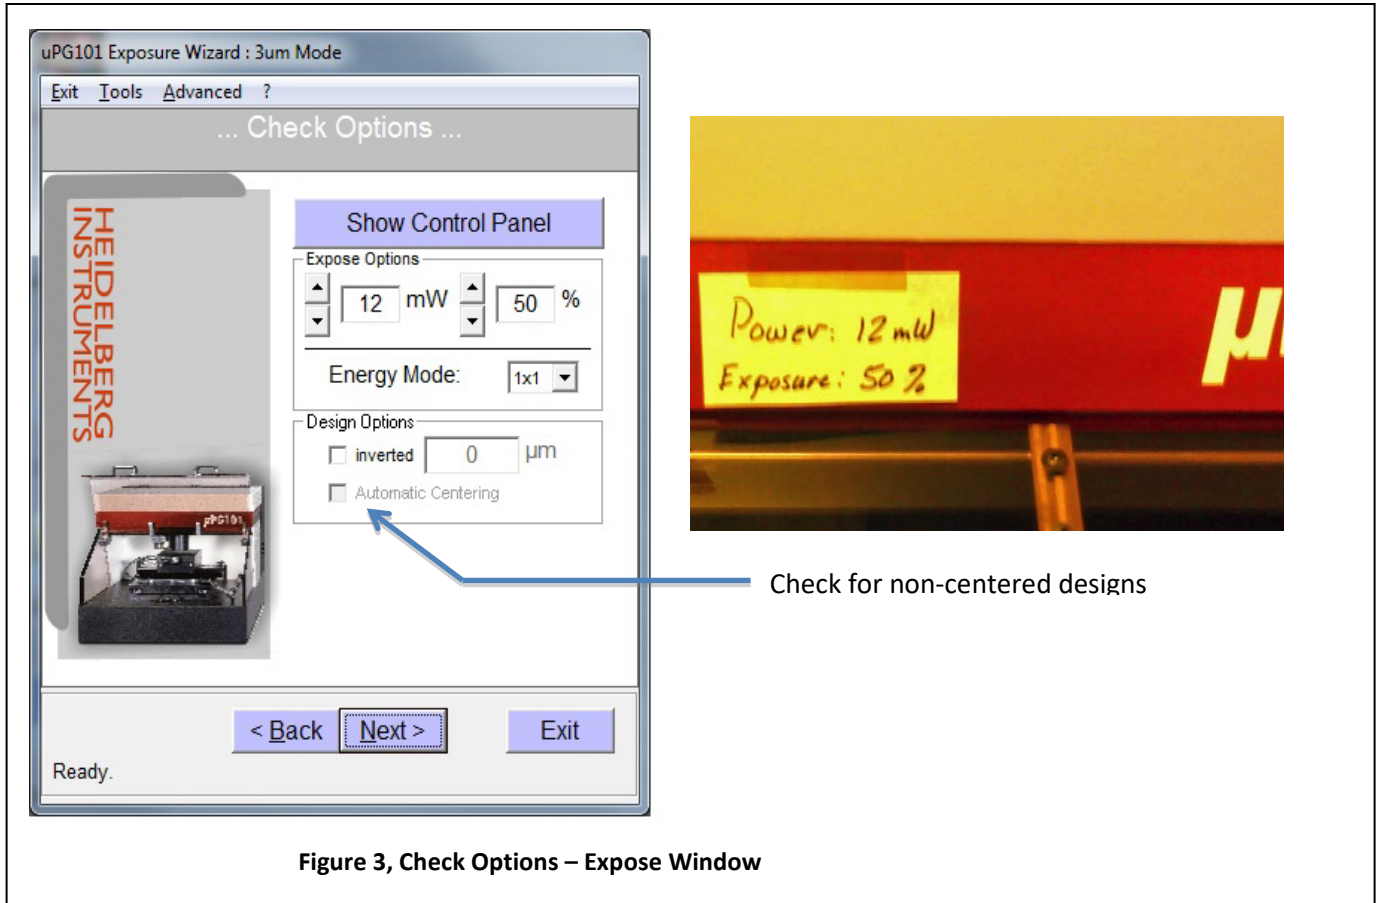

Figure 3, Check Options – Expose Window
7.6.1 Check and set Options: see Figure 3, Check Options – Expose Window